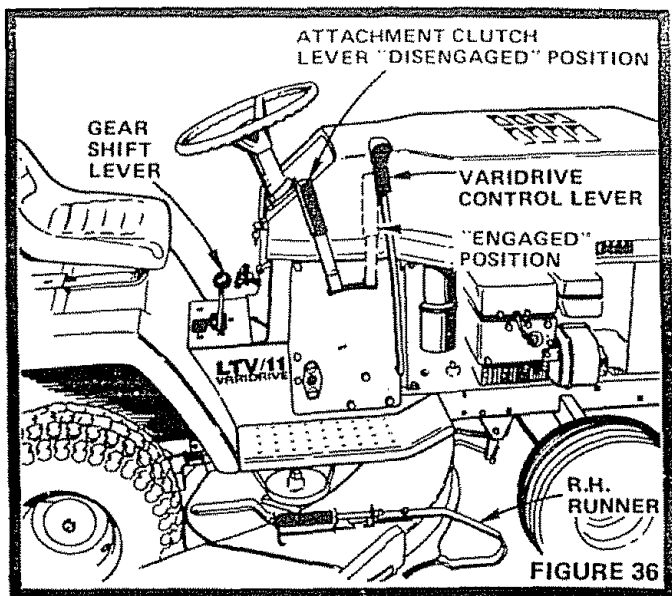
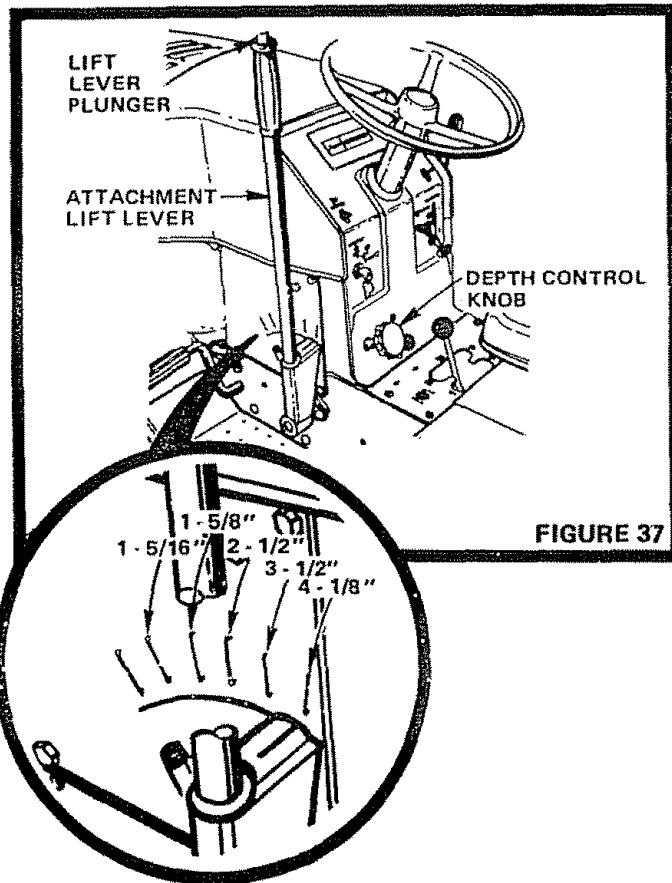

FIGURE 36
FIGURE 37
1. Place Attachment Clutch Lever in "DISENGAGED" Position (Fig 36).
3. Place Gear Shift Lever in "N" position (Fig. 36)
5. Start mowing in low range and increase ground speed by moving Varidrive Control Lever (Fig. 36) forward as conditions will permit. Average cutting height is approximately 2 - 1/2 to 2 - 3/4 inches. Height of cut can be adjusted by means of the Lift Lever (Fig. 37). Moving the Lever forward lowers the mower. Moving it rearward raises the mower. The Lift Lever is actuated by depressing the Lift Lever Plunger at the top of the lever handle (Fig. 37). Move Attachment Lift Lever rearward to highest position. Adjust Depth Control Knob (clockwise or counterclockwise) to desired cutting height (Fig. 37). Attachment Lift Lever stops at preselected height
6. Drive so that clippings are discharged onto the area that has been cut. The R.H. Runner can be used as a guide line for line of cut (Fig. 36). Have the cut area to the right of the machine. This will result in a more even distribution of clippings and more uniform cutting. When mowing large areas (Fig. 38), start by turning to the right so that the clippings will be discharged away from shrubs, fences, driveways, etc. After two or three rounds, mow in the opposite direction making left hand turns until finished. If grass is extremely tall, it should be mowed twice. The first time cut relatively high. The second time to the desired height. The left hand side of mower should be used for trimming.
1. Move Lift Lever (Fig. 37) forward to lower mower to its lowest position.